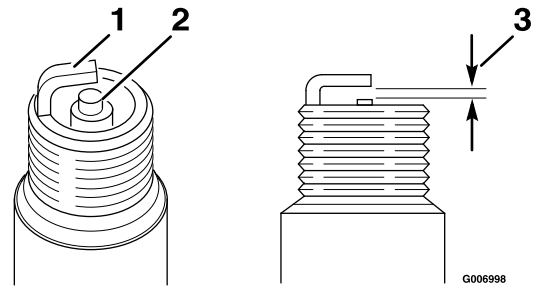

Figure 21
5. Set the gap on the plug to 0.76 mm (0.03 inch); refer to Figure 21.